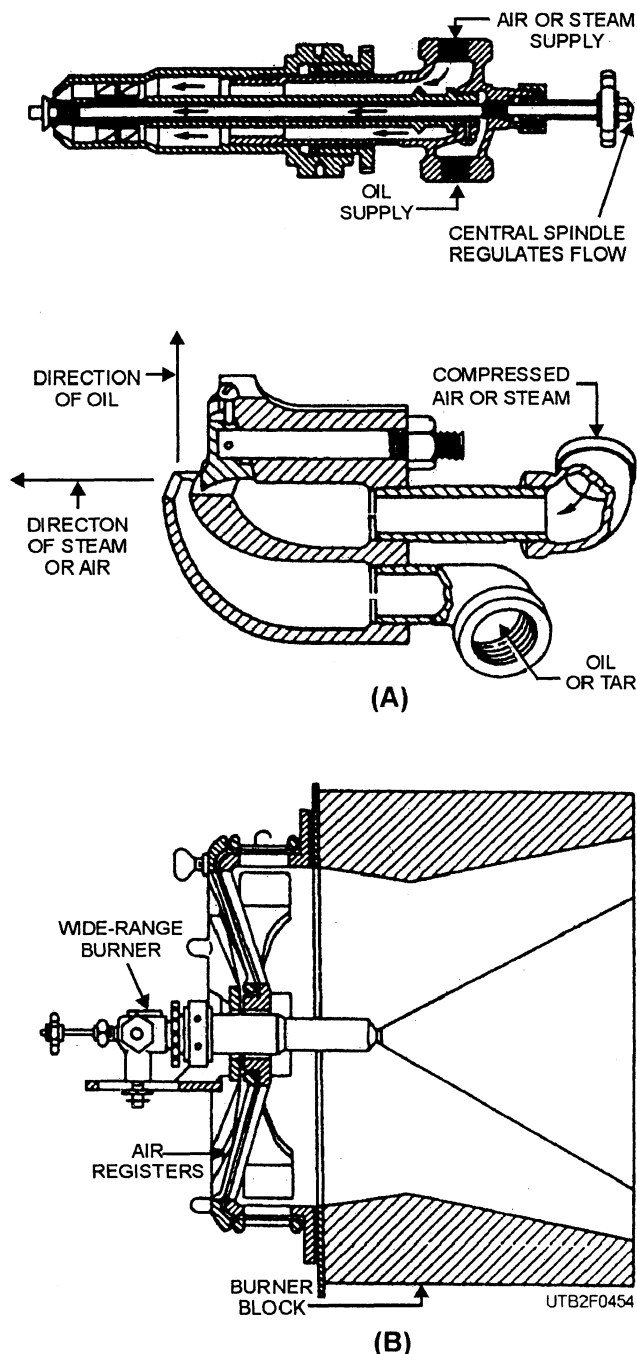

Figure 4-54.—Steam-atomizing burner.
Figure 4-54 shows a steam-atomizing burner of the external mixing type. In view (A), the oil reaches the tip through a central passage and whirls against a sprayer plate to break up at right angles, view (B), to the stream of steam. The atomizing stream surrounds the oil chamber and receives a whirling motion from vanes in its path. When air is used as the atomizing medium in this burner, it should be at 10 psi for light oils and 20 psi for heavy oils. In view (C), combustion air enters through a register; vanes or shutters are adjustable to give control of excess air.